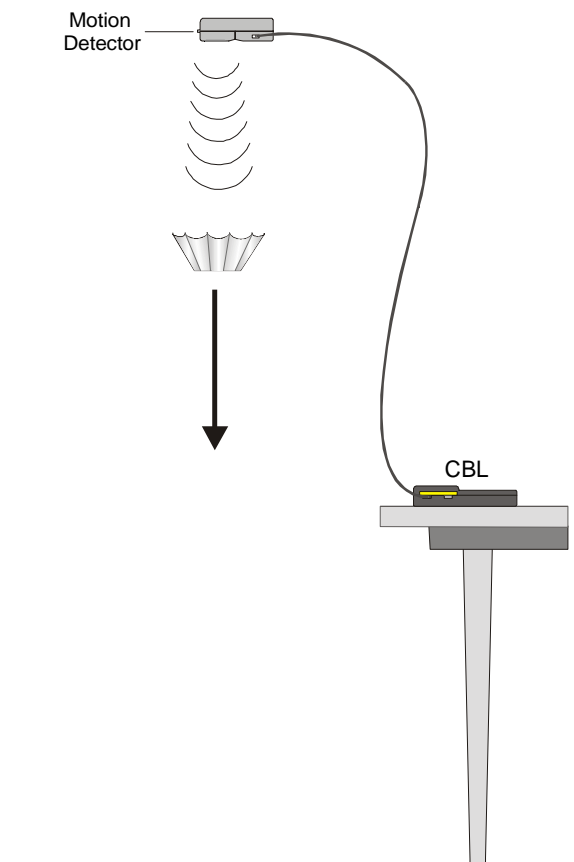

Figure 1
1. Support the Motion Detector about 2 m above the floor, pointing down, as shown in Figure 1.